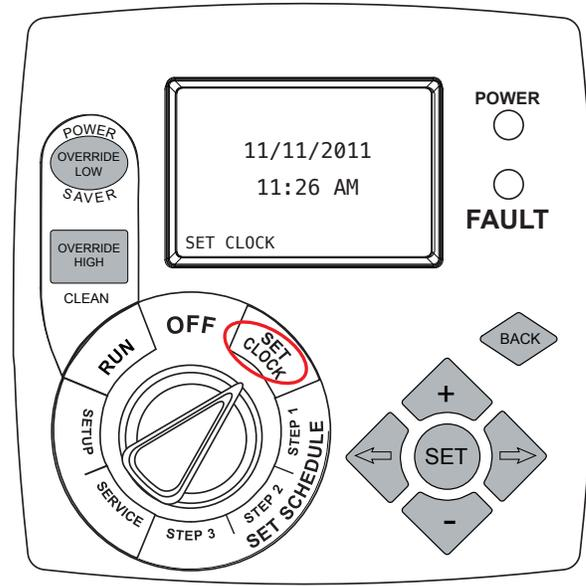

Figure 6 - Set Clock Menu Buttons
1. Turn the Selector Knob to SET CLOCK. (See Figure 6)